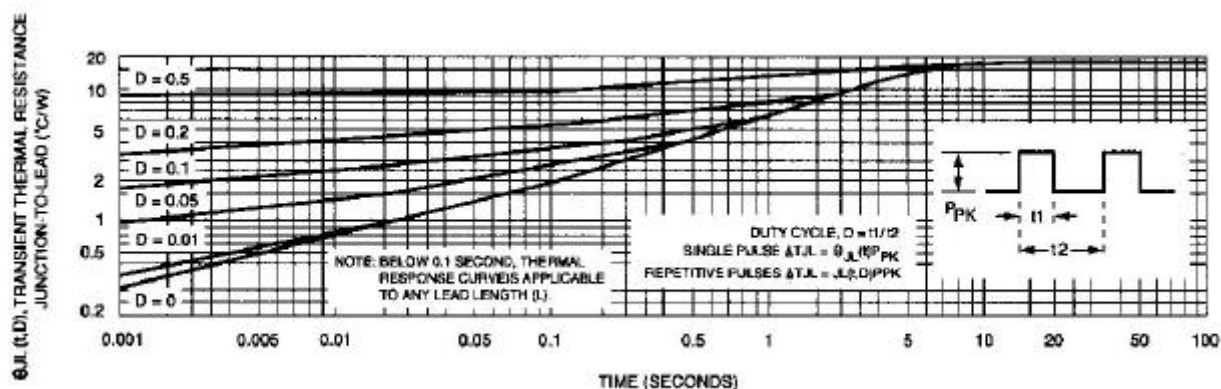
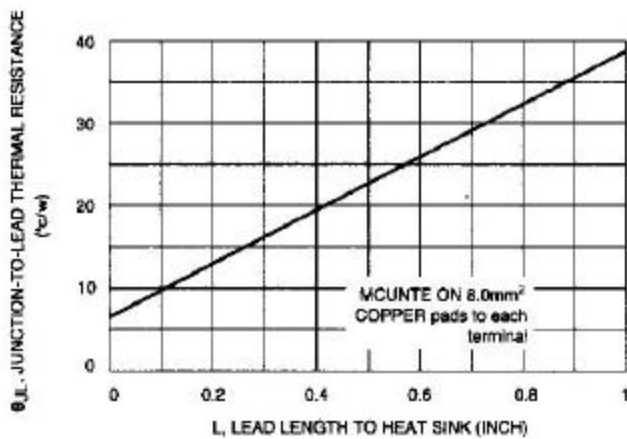
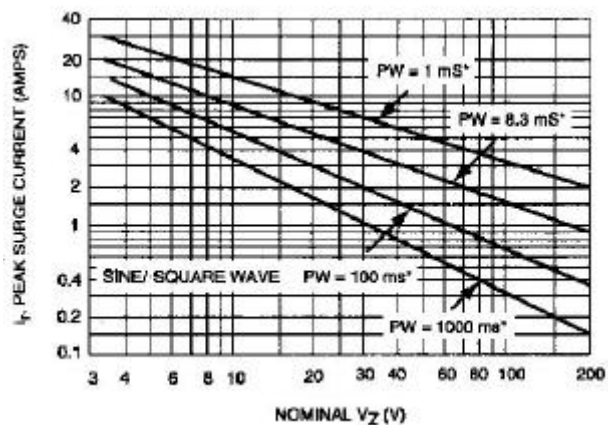
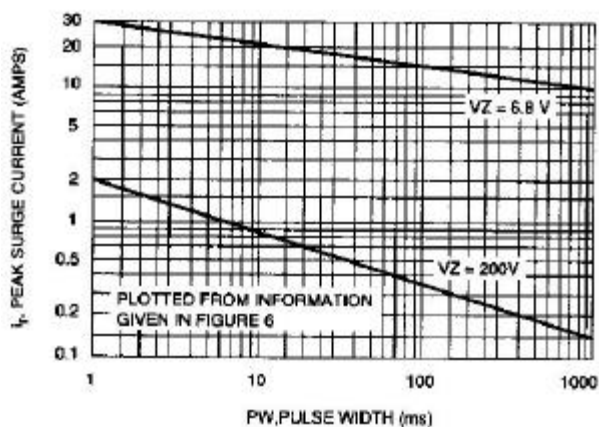

Fig. 3-TYPICAL THERMAL RESPONSE
Fig. 4-TYPICAL THERMAL RESISTANCE
Fig. 5-MAXIMUM NON-REPETITIVE SURGE CURRENT
Fig. 6-PEAK SURGE CURRENT VERSUS PULSE
3. SURGE CURRENT ( $I_r$ ) - Surge current is specified as the maximum allowable peak, non-recurrent square-wave current with a pulse width, PW, of 8.3 ms. The data given in Figure 5 may be used to find the maximum surge current for a quare wave of any pulse width between 1 ms and 1000ms by plotting the applicable points on logarithmic paper. Examples of this, using the 6.8v and 200V zeners, are shown in Figure 6. Mounting contact located as specified in Note 3. ( $T_A=25$  ).
$T_{JL}$  is the increase in junction temperature above the lead temperature and may be found from Figure 3 for a train of power pulses or from Figure 4 for dc power.
Data of Figure 3 should not be used to compute surge capability. Surge limitations are given in Figure 5. They are lower than would be expected by considering only junction temperature, as current crowding effects cause temperatures to be extremely high in small spots resulting in device degradation should the limits of Figure. 5 be exceeded.